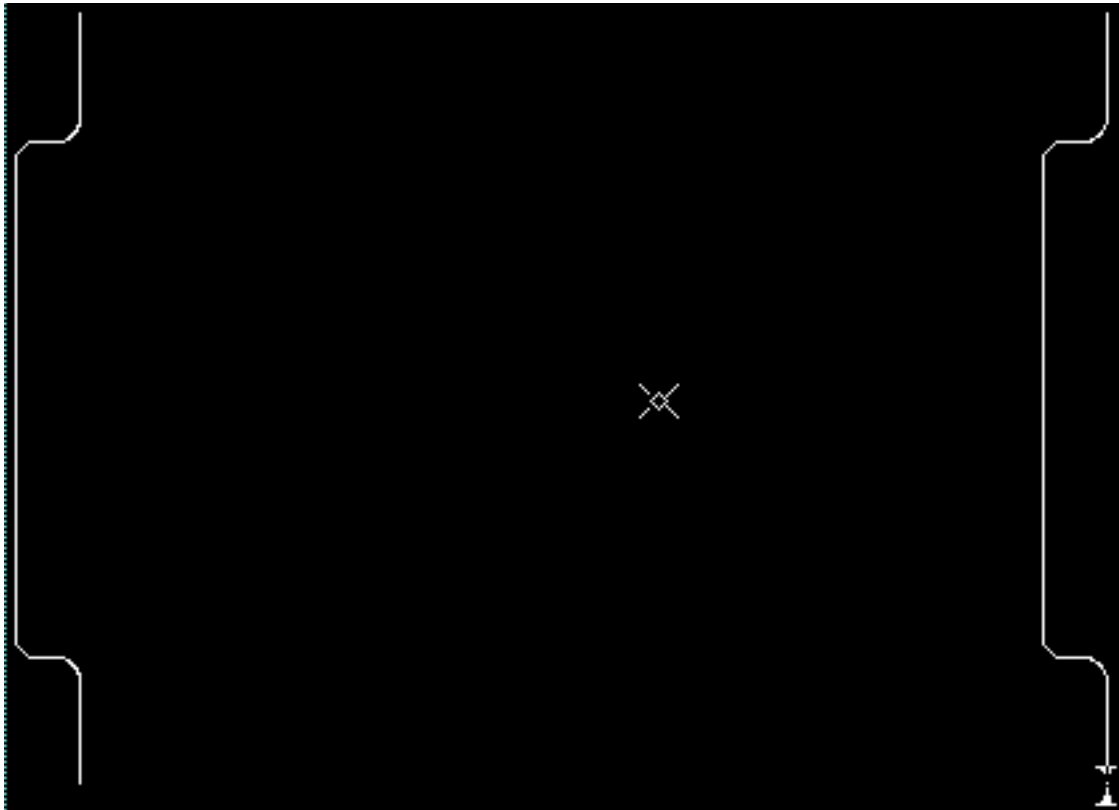

Figure 4-13. The Left End Copied to the Right
Now that the left end of the board is complete, as shown at the left side of Figure 4-13, you will copy it to the right end. First you will select the left end you have made, then copy it 8 inches in the X direction, relative to the basepoint. Then you will flip the right end copy so it will be correctly positioned. Finally, you will join the two ends and add the final four chamfers.
26. Cancel the Copy prompt bar that repeated, then view all of the geometry. It appears as shown in Figure 4-13, and the copy at the right end is still selected.
Before you flip the right end to correctly orient it, you need to move the basepoint so it is located as shown above in Figure 4-13.
The basepoint is moved so it is located as shown in Figure 4-13, and the right-side copy is still selected.